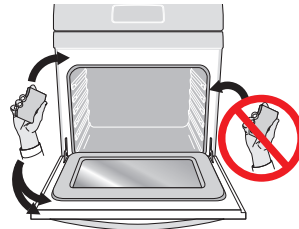

Figure 38: Clean around the oven door gasket
9. Wipe oven cavity and bottom. Do not clean oven door gasket (Figure 38). Avoid leaning or resting on the oven door glass while cleaning cavity.